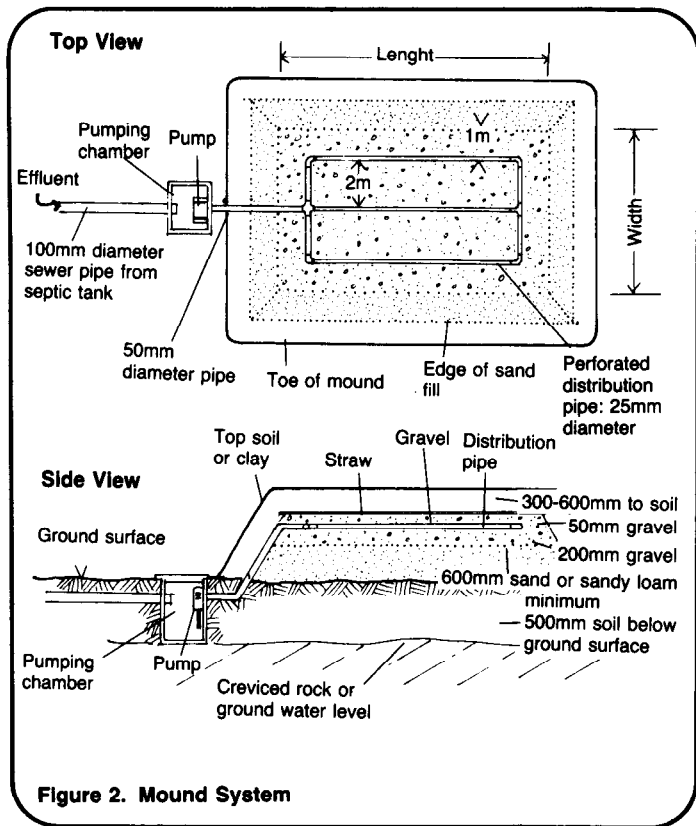

Figure 2. Mound System
2. Design drawings similar to Figures 2, 3, or 4.